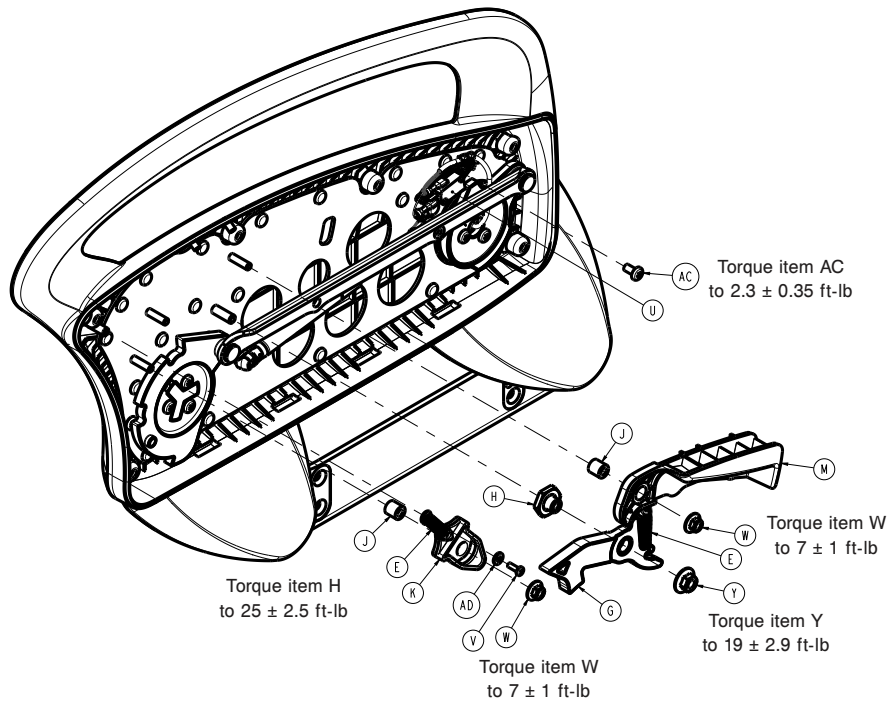

Figure 59 – Replacing the foot siderail hoop
7. Using a T25 Torx driver, remove the six screws (AB) that secure the cover (N) to the siderail assembly. Remove the outer siderail cover.
8. Using a T20 Torx driver, remove the screw (V) and washer (AD) that secure the spring (E) to the siderail hoop for the siderail detent paw (Figure 59).
9. Using a T30 Torx driver, remove the screw (AC) that secures the siderail switch assembly (U) and bracket to the siderail frame (Figure 59).